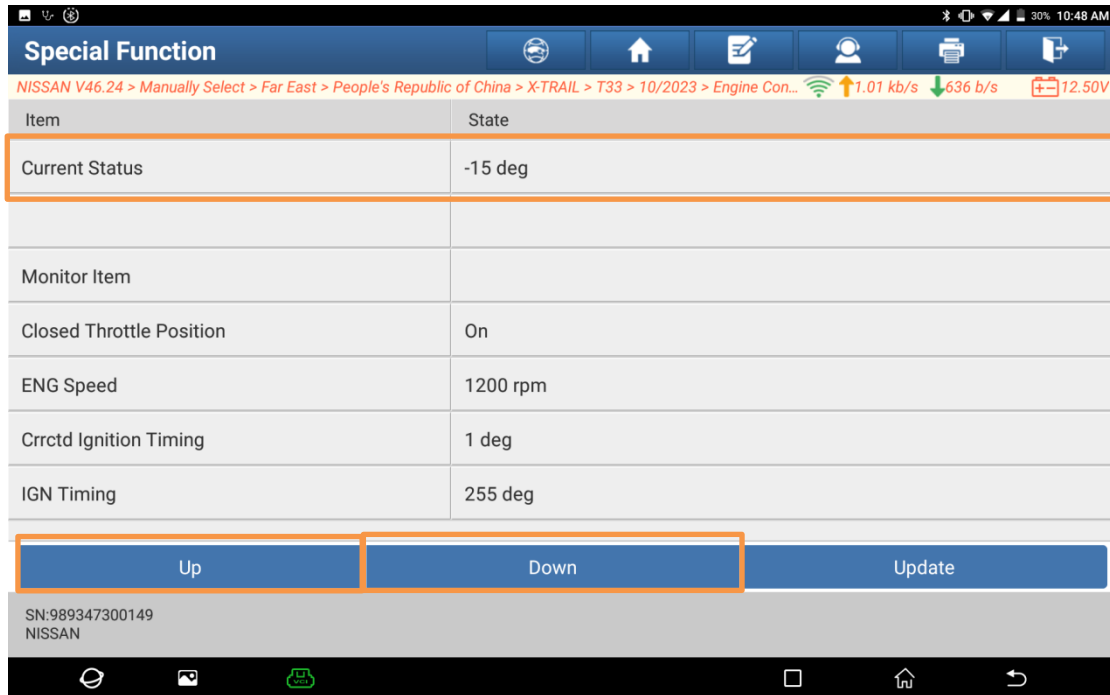

Figure 15
8. Based on actual conditions, input the desired value by clicking the [Up] or [Down] buttons as shown in Figure 15.